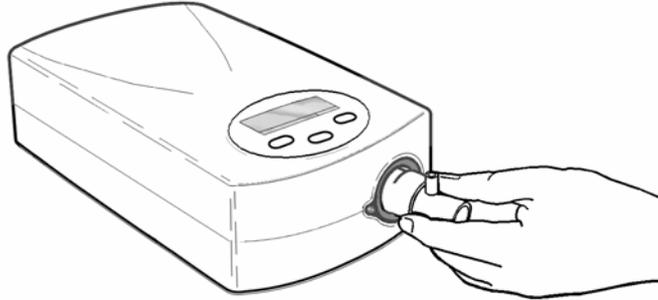

Figure 6 – Oxygen Adapter Connection
- Connect the oxygen adapter onto the device's outlet connector and connect the other end of the adapter onto the end of the breathing circuit. (see Figure 6). Connect the pressure tube to the pressure port (Figure 3, item 5 on page 5).